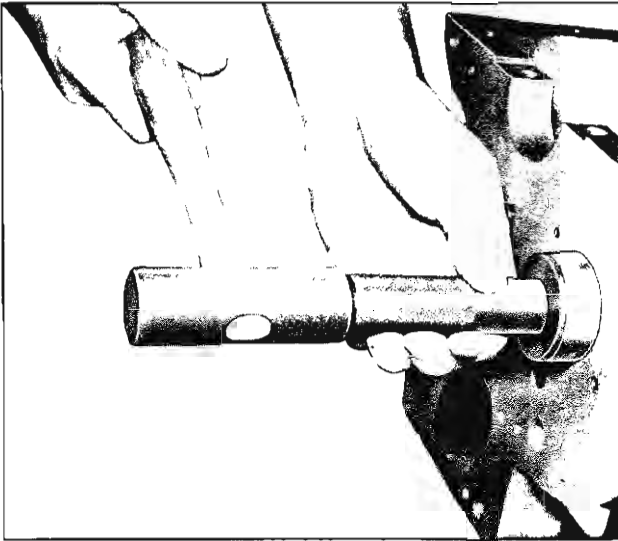

Fig. 40—Installing Front or Rear Bearing
7. Align oil hole on bearing with oil hole from oil gallery and drive bearing in from front of engine (fig. 40).